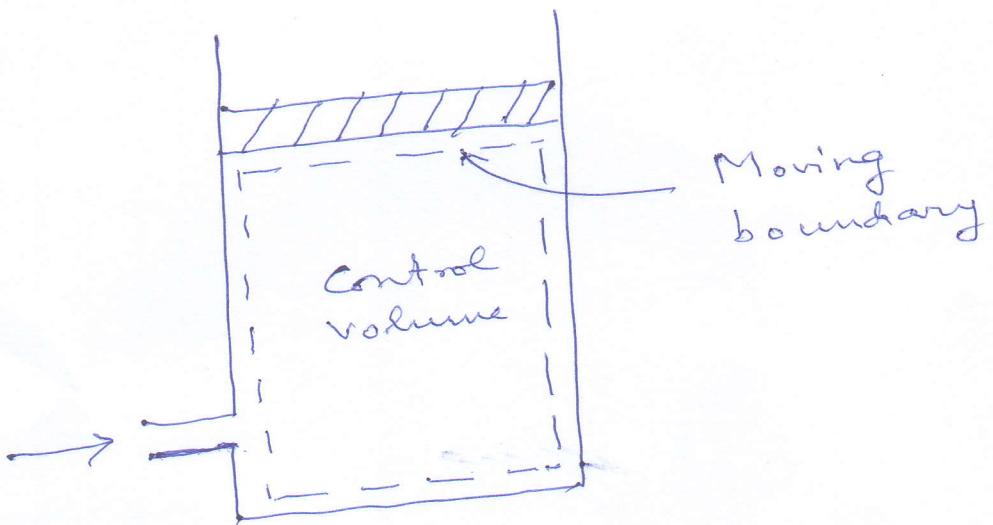

Fig. 3 The shape and size of a control volume may change during an unsteady-flow process.
- Another difference between steady and unsteady-flow systems is that steady-flow systems are fixed in space, size and shape. Unsteady-flow systems may not be so (Fig. 3). They are usually stationary; that is, they are fixed in space, but may involve moving boundaries and thus boundary work.